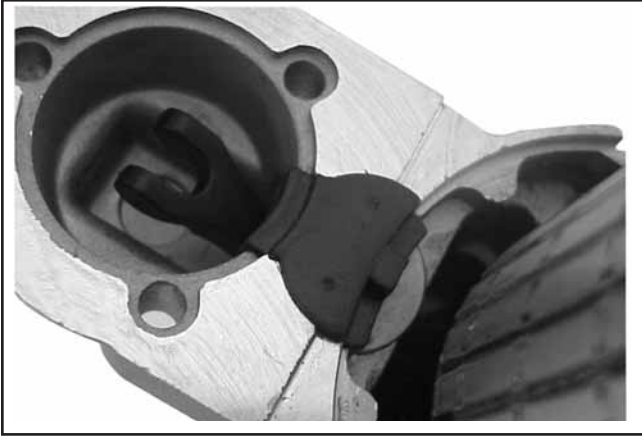

Figure 7-58. Installing Backup Washer and Grommet.
7. Install the backup washer, followed by the rubber grommet, into the matching recess of the drive end cap. The molded recesses in the grommet should be out, matching and aligned with those in the end cap. See Figure 7-58.